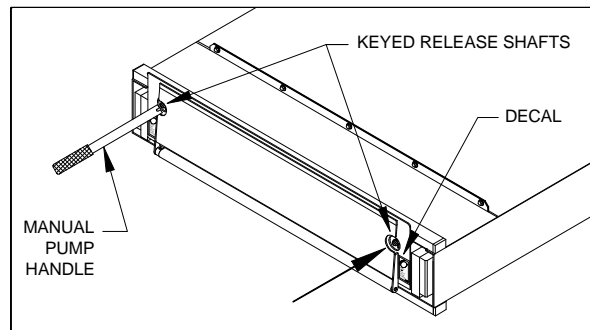

FIGURE 2-6: PLATFORM RELEASE SHAFTS
Refer to **Figure 2-6**. The stowed platform is difficult to withdraw against the resistance of the deployment system. For that reason, a release mechanism is provided to disengage the platform when manual deployment is necessary. The platform is released by rotating either of the keyed release shafts in the direction shown on the decals located on the front of the rollstop. The shafts are located behind cutouts at the left and right sides of the front rollstop.
- b. Refer to **Figure 2-6**. Obtain manual pump handle from its storage location, and engage either of the keyed release shafts located behind the rollstop access holes. Rotate the shaft $\frac{1}{4}$ turn in the direction indicated on the adjacent decal.
- 4) Refer to **Figure 2-6**. Obtain manual pump handle from its storage location and engage either of the keyed release shafts located behind the rollstop access holes. Rotate the shaft ¼ turn in the direction indicated on the adjacent decal.